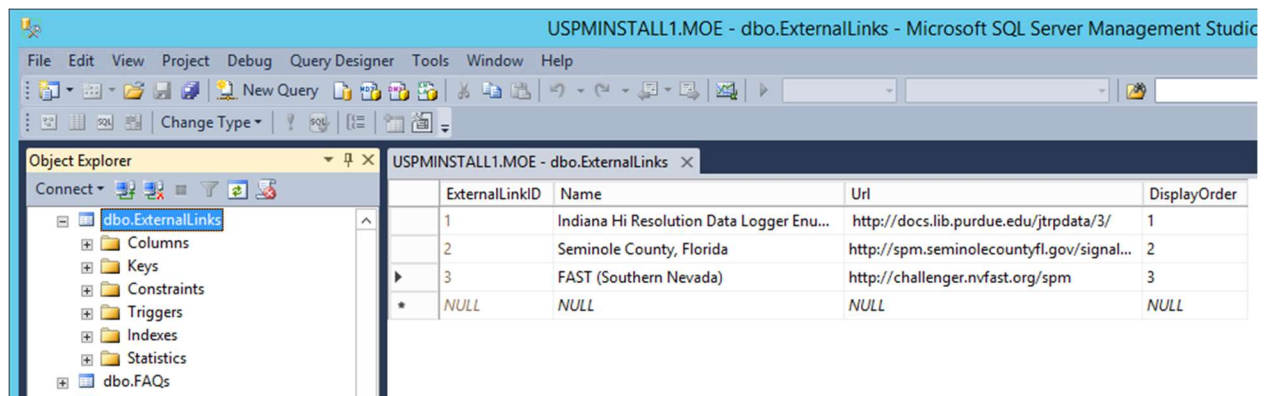

Figure 6: Customize web addresses for the Links menu
- Add, modify, or remove URLs as needed; see Figure 6 below.